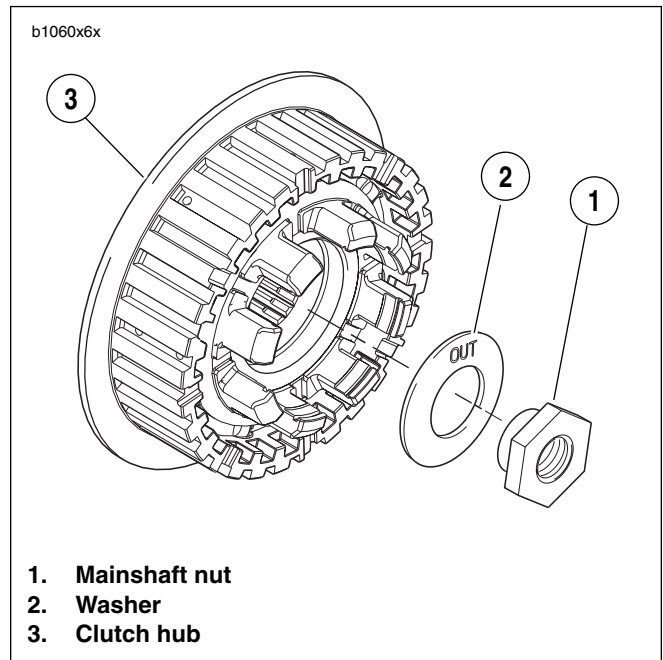

Figure 6-35. Mainshaft Nut and Washer
See Figure 6-35. Washer must be installed with the word "out" facing the mainshaft nut or transmission may be damaged.
6. See Figure 6-35. Install mainshaft washer (2) and nut (1).
- b. Place washer (2) on mainshaft with the word "out" facing away from clutch hub.
- c. Apply LOCTITE 272 (red) and install nut (left-hand threads) (1). Tighten to 70-80 ft-lbs (94.9-108.5 Nm).